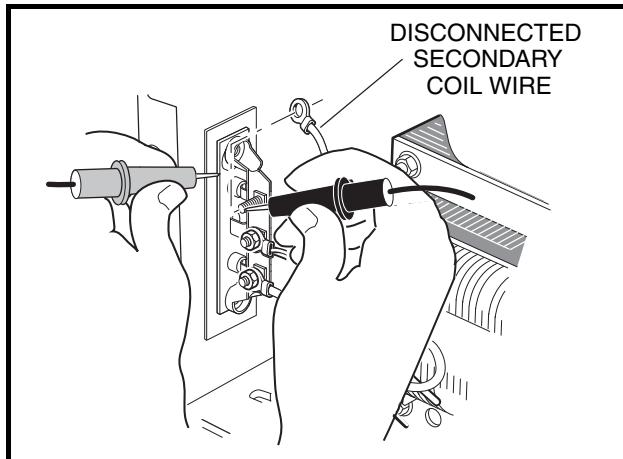

Figure 4-13 Diode Test
4. Disconnect one transformer secondary coil wire from the diode terminal (**Figure 4-13, Page 4-15**).
5. Using a low voltage continuity tester or multimeter set to the diode test function, connect the red (+) test probe to the diode mounting plate and the black (–) test probe to a diode terminal and note the reading (**Figure 4-13, Page 4-15**).